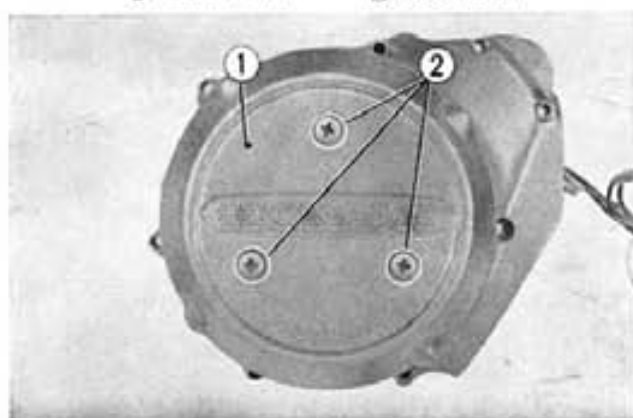

Fig. 8-7 ① Dynamo cover
3. Remove the field coil from the dynamo cover by unscrewing the three screws (Fig. 8-7).